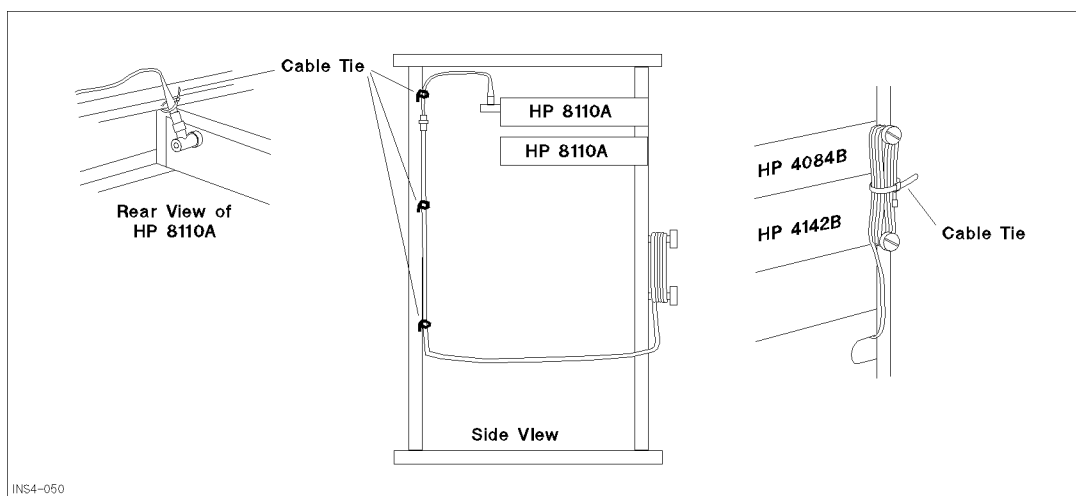

Figure 4-12. Installing the BNC-to-SMA cable assembly
- Attach a BNC T-adapter (6) to the TRIGGER OUT terminal on the rear panel of the top HP 8110A (PG1).
- Attach a probe tip-to-BNC adapter (7) to the BNC T-adapter (6).
- Connect a resistive probe (8) to the probe tip-to-BNC adapter.
- Connect a BNC-to-SMA cable assembly (9) to the resistive probe.
- Connect a 50 Ω SMA terminator (10) to the BNC-to-SMA cable assembly.
- Fix the resistive probe to the support rail with a cable tie (see Figure 4-12).
- Fix the BNC-to-SMA cable assembly to the cabinet frame with three cable ties (see Figure 4-12).
- Wind the cable assembly around the two knobs (see Figure 4-12).